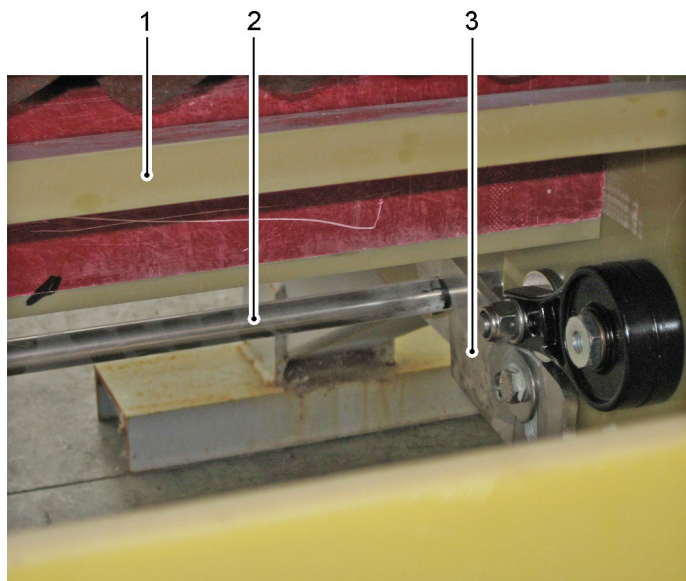

Figure 6.34 - Automatic closing of the clamp coil
- 8) The closing mechanism should automatically hook the opposite side of the clamp coil (see Figure 6.34/1). Looking at the bottom of the clamp coil (1) check, on both sides, that the two hooking arms (3) catch the bar (2) on the opposite shoulder.